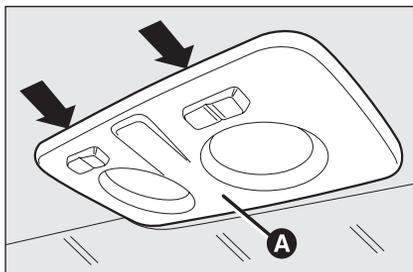
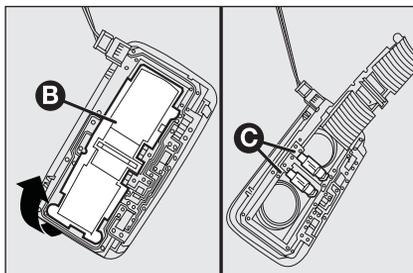

fig. 36
fig. 37
- work in the points shown by the arrows and remove light **A-fig. 36**;
- open the protection lid **B-fig. 37**;
- re-close the lid **B-fig. 37** and secure light **A-fig. 36** into its housing locking it properly.